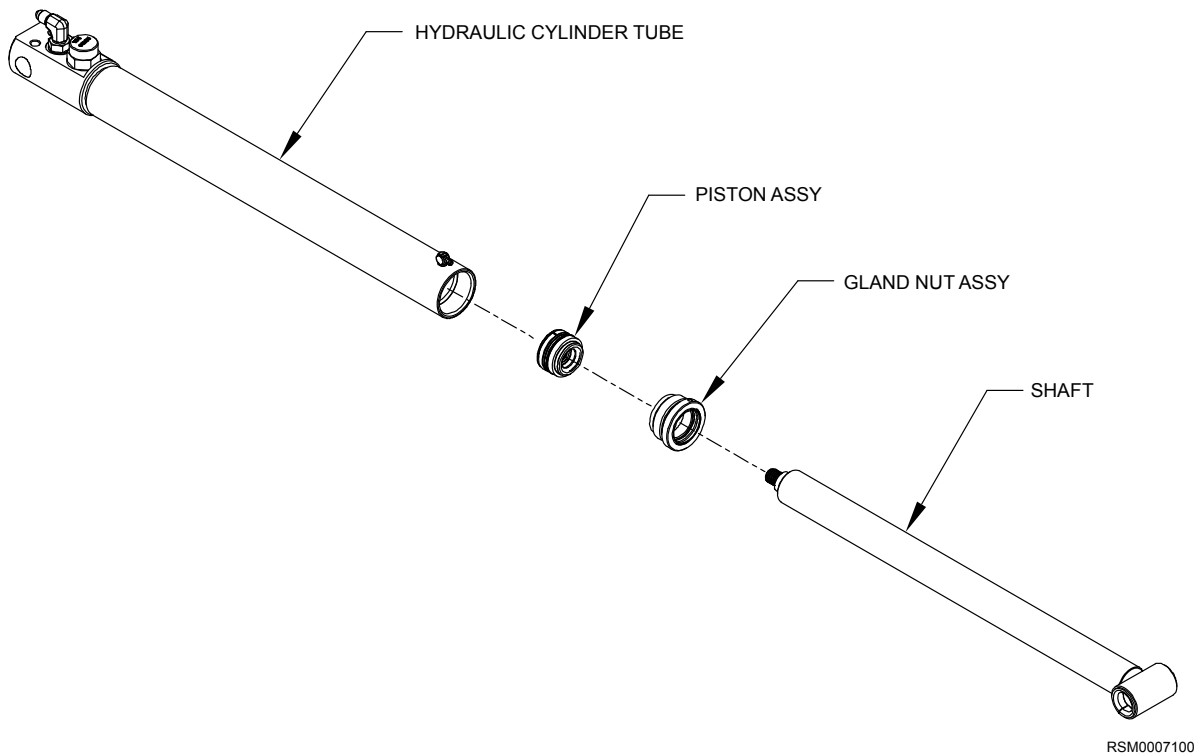

**FIGURE 3-18: PLATFORM FOLDING BRACKET**
- f. Refer to **Figure 3-18**. Drive rear pin out and retain. Use pin driver, pin is driven towards bushing side.